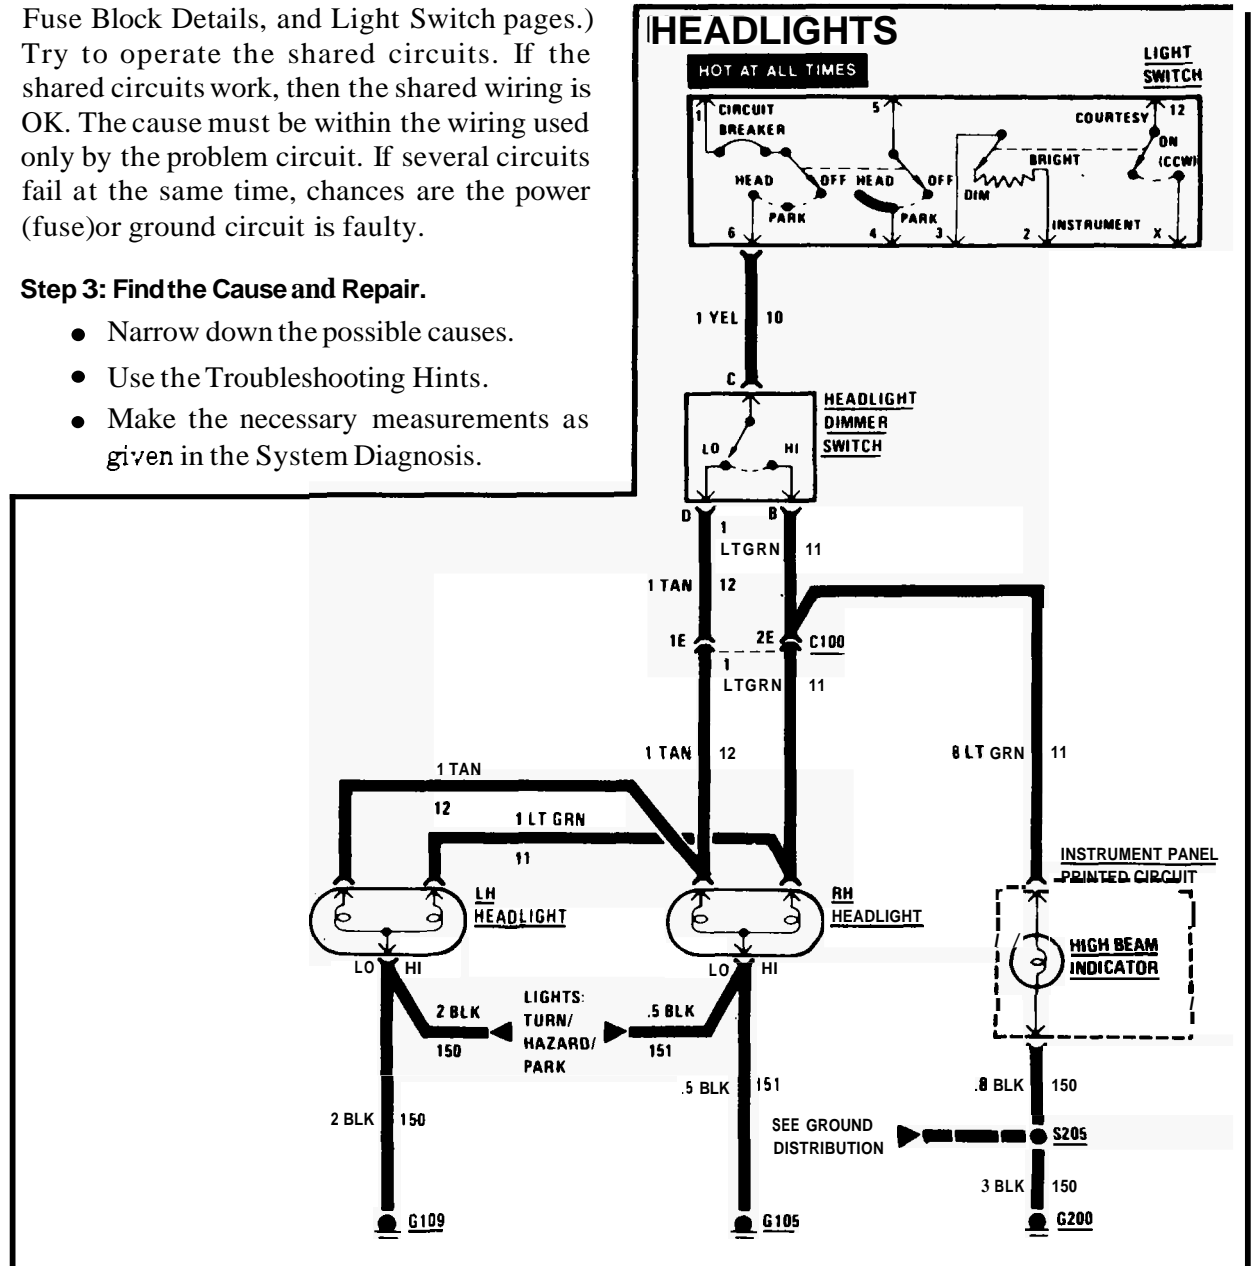

Figure 9 - Typical Headlights Schematic
**Step 2:** Read the Headlights electrical schematic, see figure 9. This is the step that will save you time and labor. Remember, it is essential to understand how a circuit *should* work, before trying to figure out why it doesn't.